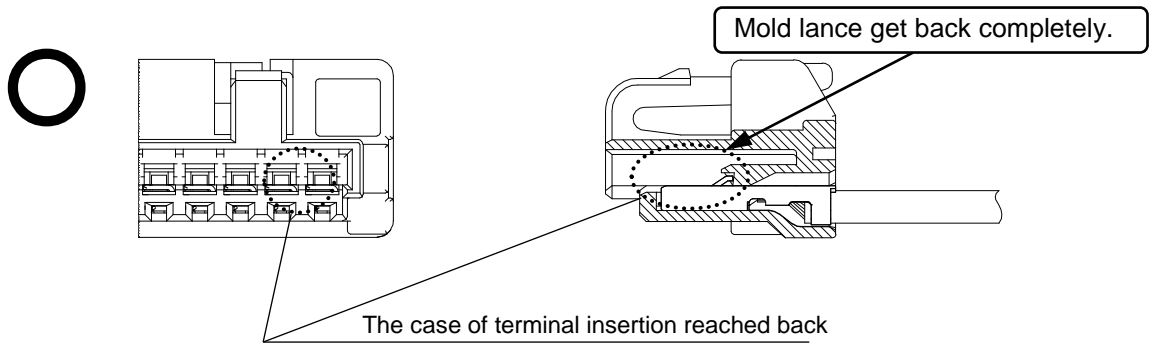

Fig.5-4 The case of correct insertion
- ② After inserting all terminals, please confirm the position of terminal lance part by seeing through window of plug mold lance. If they are inserted correctly, terminal lance is at the position where terminal lance get over mold lance properly and you can confirm clearance by shaking them insertion axially lightly.(Fig.5-4,5-5)